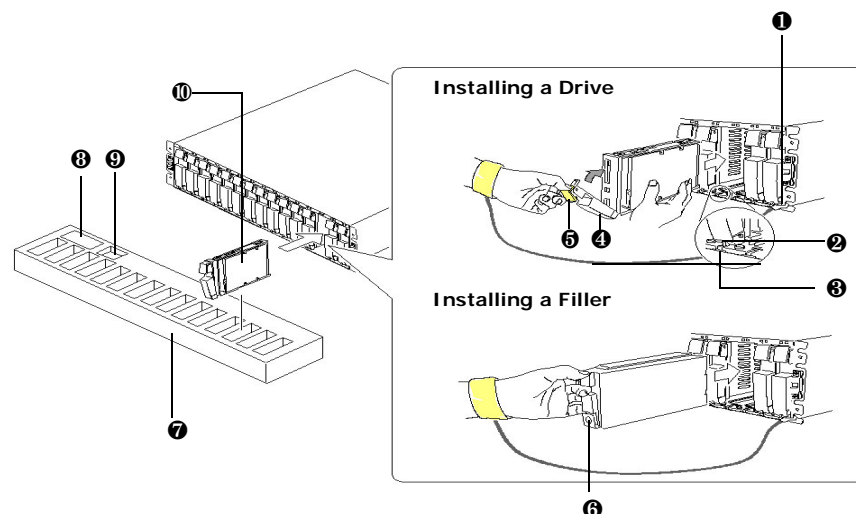

Figure 1-4: Installing a Drive or Drive Filler
- g. Place the drive on the slot's guide rail, then gently slide the drive into the slot (shown by the arrow in Figure 1-4). Stop pushing when the blue lever at the top of the drive tray starts to rise.